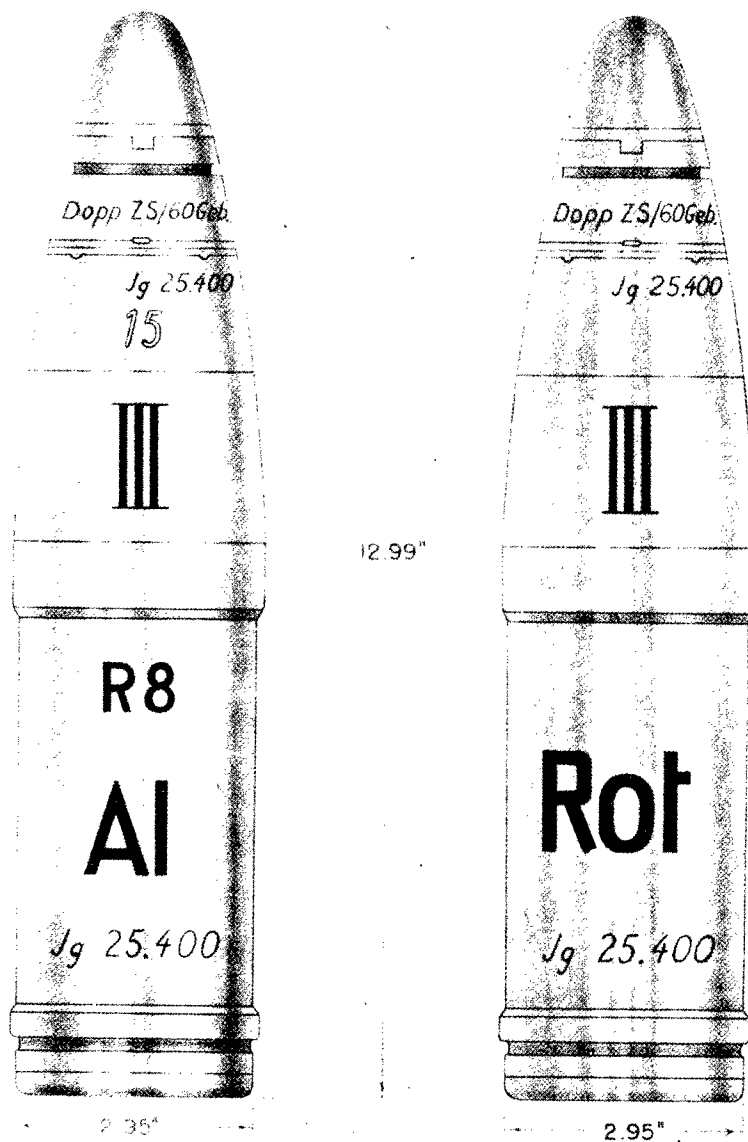

Figure 377—H. E. Projectile for Mountain Gun, 75-mm Geb. Gr. 15 Al.
**GERMAN NOMENCLATURE:** Geb. G. 15 Al. (Gebirgs Granate 15 Aluminum). (See fig. 377.)